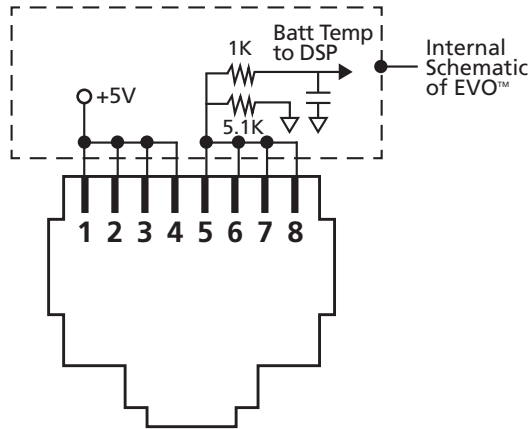

Fig 3.13 Pinout of RJ-45 Jack marked "Battery Temp Sensor" on the front panel of EVO® [6 in Fig 2.1].
RJ-45 Plug [*2 in Fig 2.5(a)*]: The RJ-45 Plug is required to be plugged into the RJ-45 Jack marked "Battery Temp Sensor" on the front panel of EVO® (*6 in Fig 2.1*). Pinout of the RJ-45 jack is shown in Fig 3.13.
Pinout of this RJ-45 Jack [marked "Battery Temp Sensor" on the front panel of EVO® (6 in Fig 2.1)] is shown at Fig 3.13:
- o Connect to any of Pins 1/2/3/4 [Refer to Fig 3.13 for pinout of RJ-45 Jack. Pins 1 to 4 are internally shorted]
- o Connect to any of Pins 5/6/7/8 [Refer to Fig 3.13 for pinout of RJ-45 Jack. Pins 5 to 8 internally shorted]